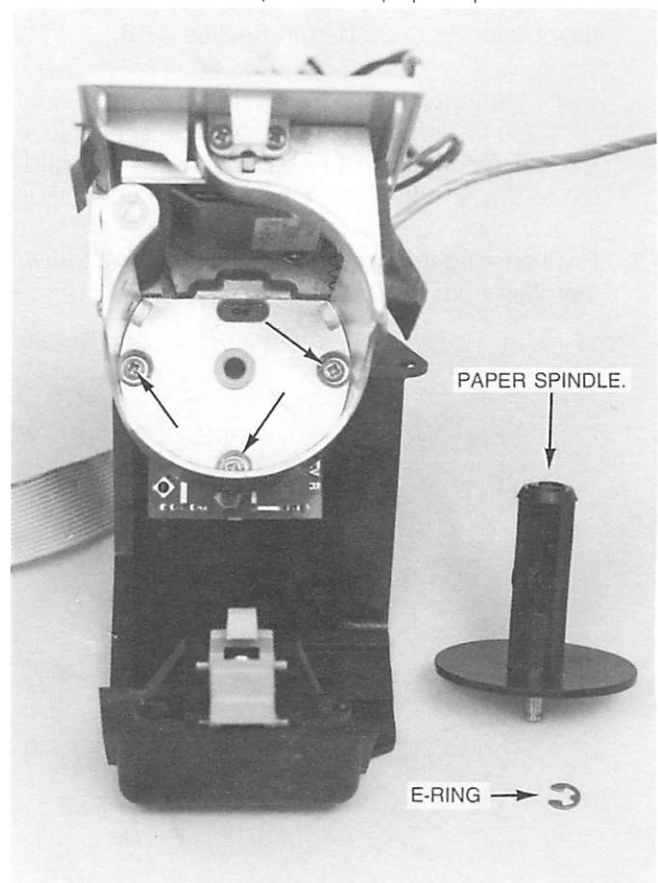

Figure 4-17.
4. Pull the spindle out of the recorder frame. See Figure 4-17.
3. Remove the three screws behind the paper spindle. This separates the front part of the recorder from the motor section. See Figure 4-17 and 4-18.
5. Check the chain drive gear set screws. Tighten if necessary; the screw is retained by loc-tite. If screw is turned loc-tite (222) should be reapplied. Be sure the gears line up so there is no side force on the drive chain. Replace the paper spindle.